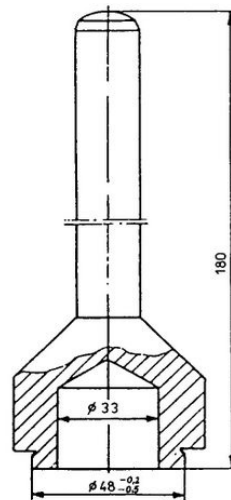

Fig. 59. Mandrel for knocking a gear on a crankshaft
- Press a sealing ring on a crankshaft from the flywheel side (A85  $\times$  115  $\times$  15) using mandrels (Fig. 59 and 60). Since January 1, 1996, is used a sealing ring BAUM6  $\times$  7 85  $\times$  110  $\times$  12.
- Put a disc guiding toothed belt on a crankshaft, place a key in a groove and press a gear on a crankshaft using a mandrel (Fig. 59). Place a damper of torsion vibration.